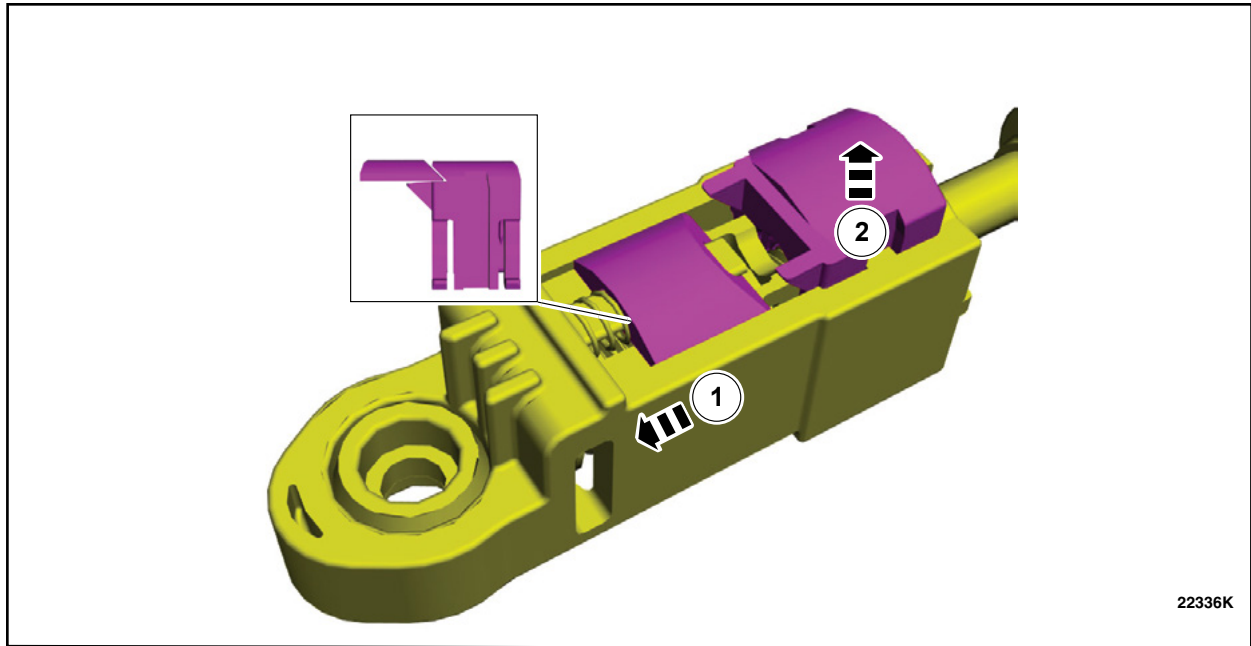

FIGURE 13
14. Release the selector lever cable adjuster lock. See Figure 13.